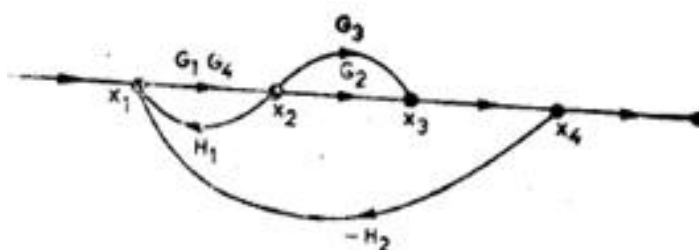

Fig. 1
- b) Determine the closed loop transfer function $\phi(s) / i(s)$ for the control system whose signal flow diagram is given in Fig. 1.